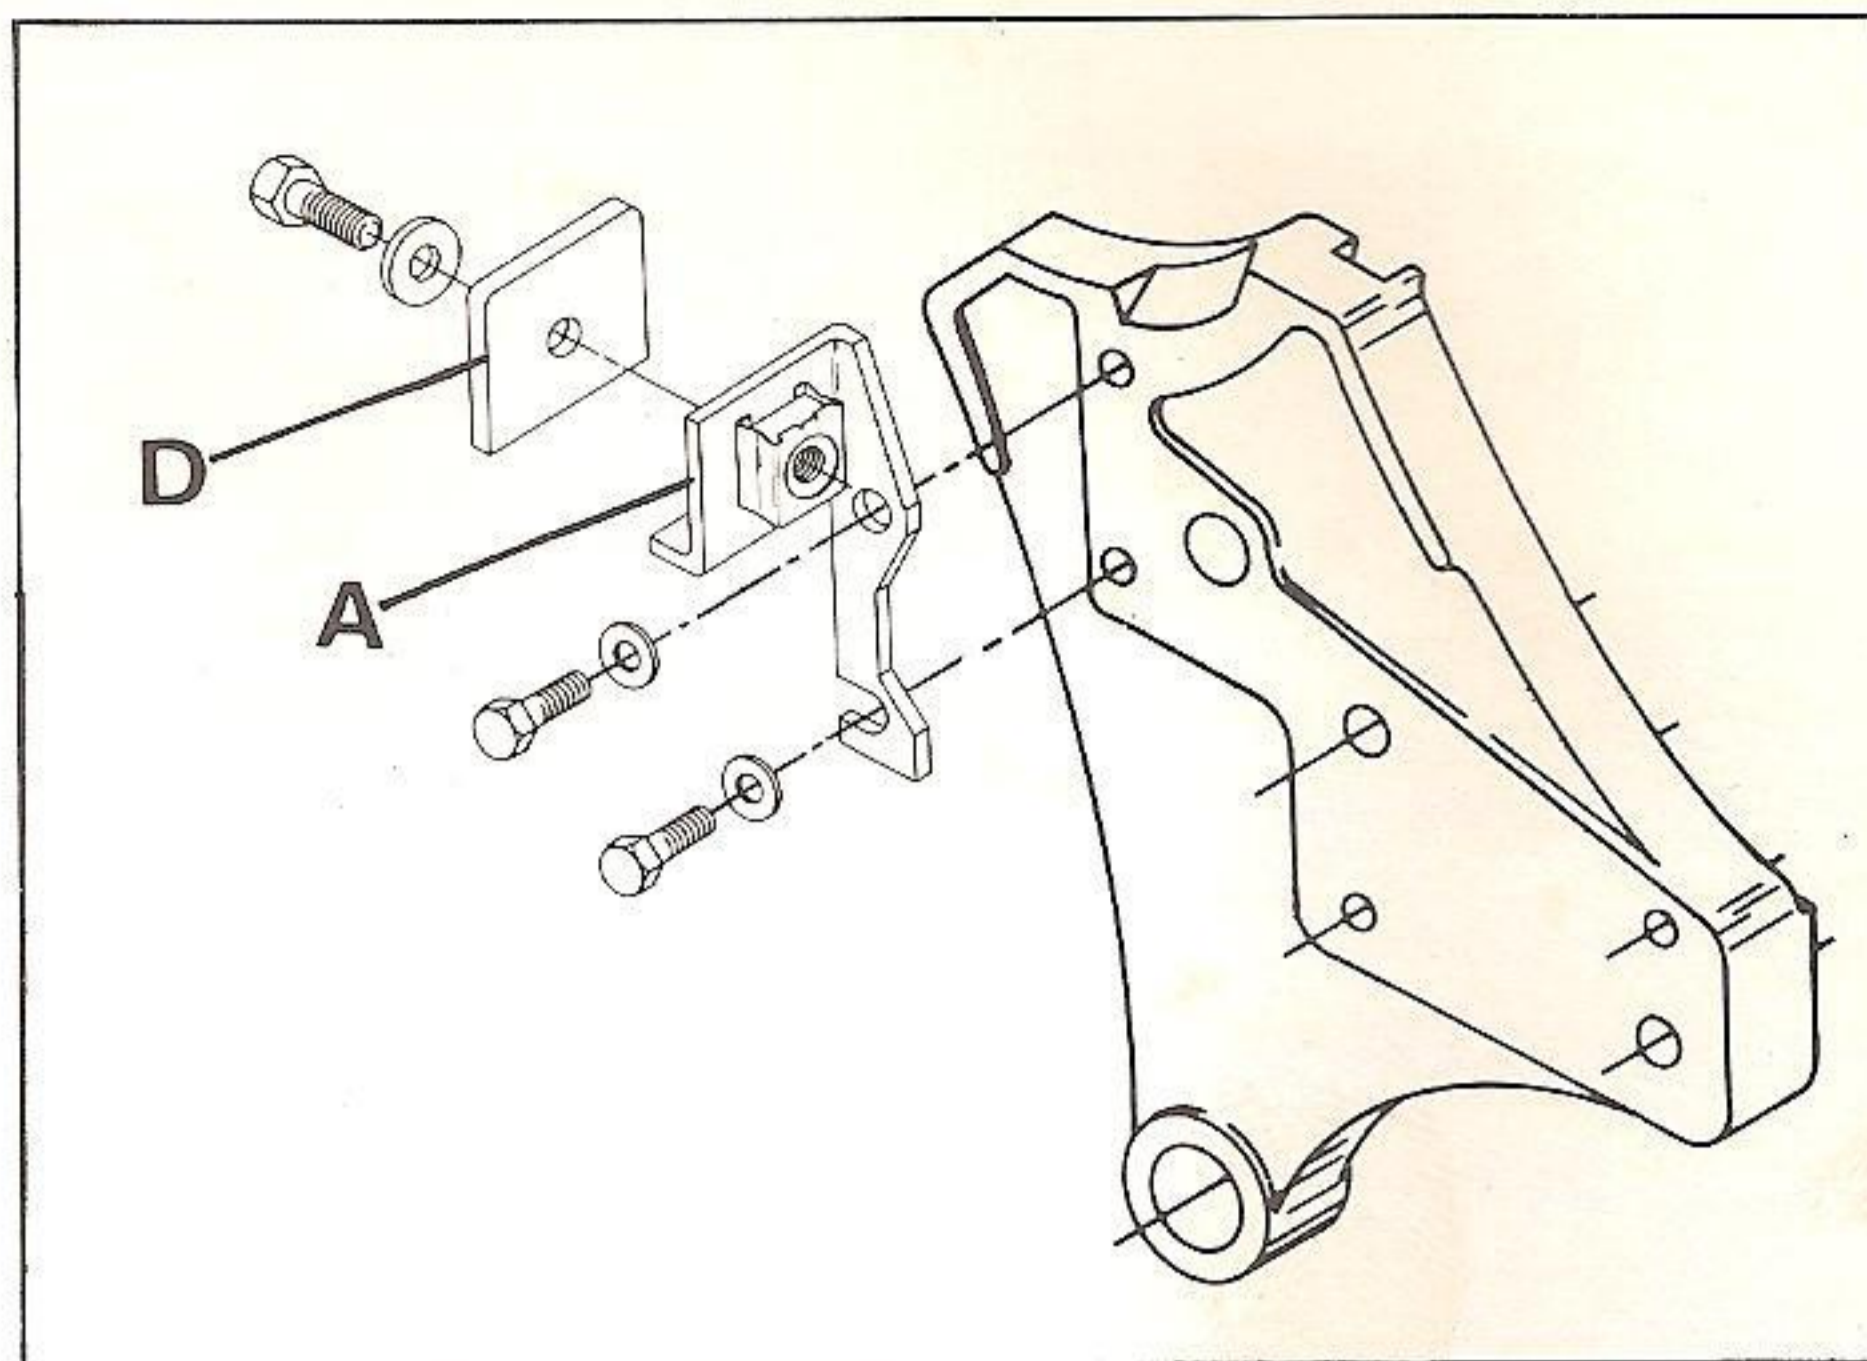
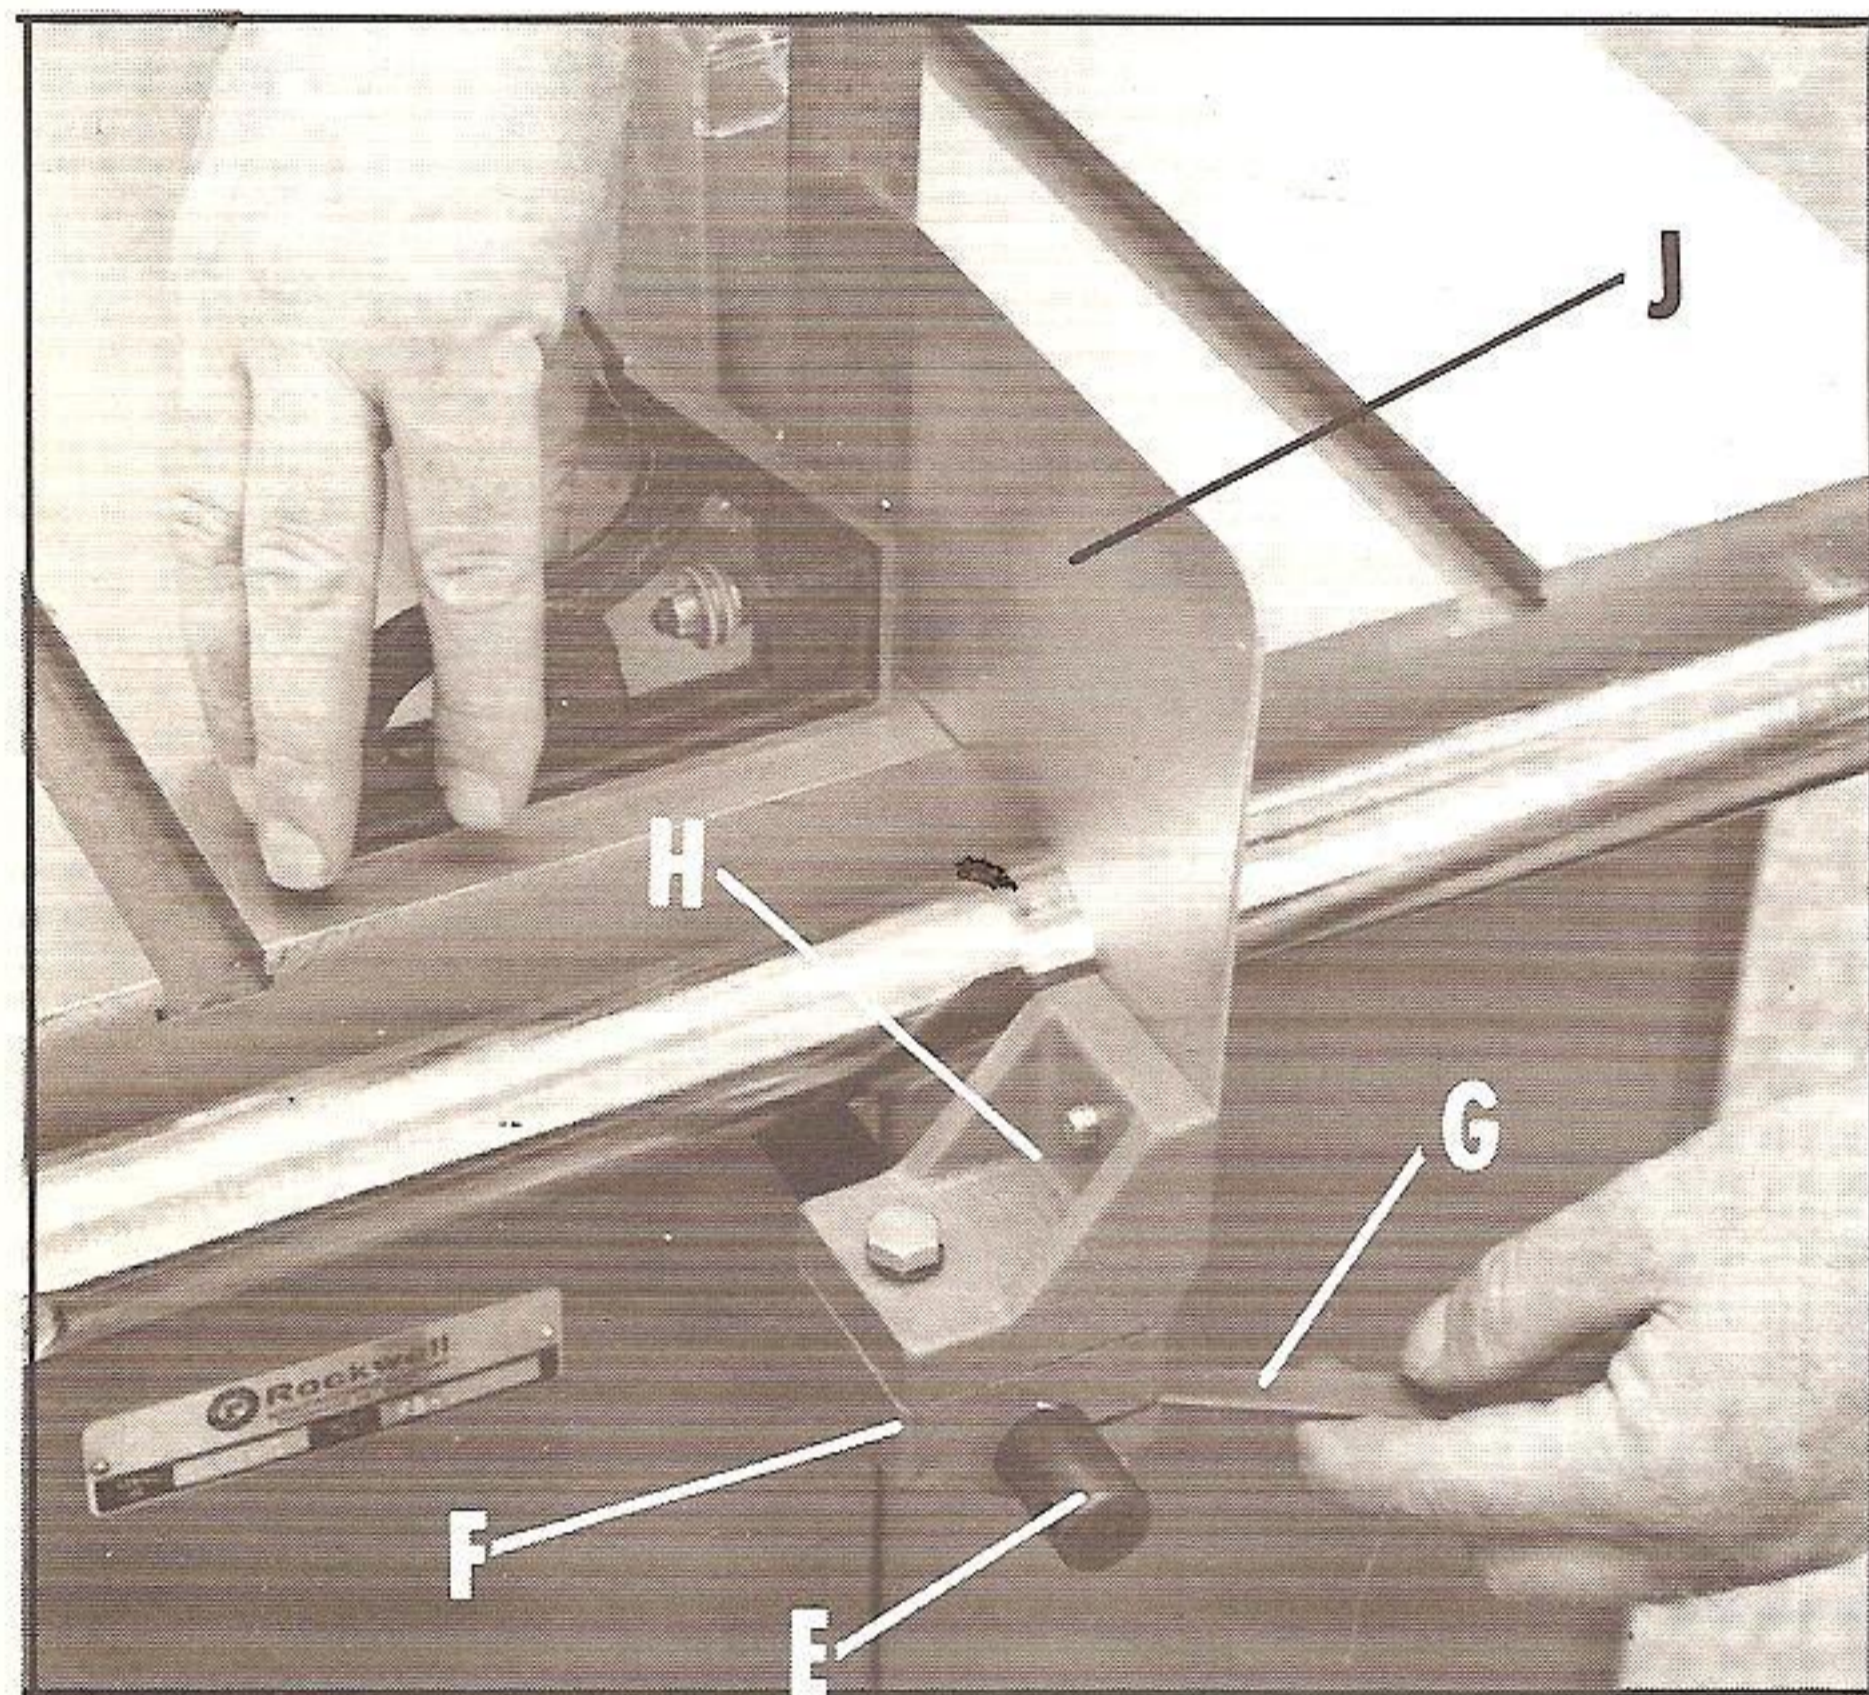

Fig. 10
Fig. 11
3. Assemble splitter fastening plate (D) to the bracket (A), using the screw and washer provided, as shown in Fig. 10.
4. Place threaded end of eccentric rod (E) Fig. 11, through hole in rear of saw carriage and fasten with star washer and nut supplied. Do not fully tighten nut at this time.
5. Assemble lower rear bracket (F) to eccentric rod (E) and snug up the two screws located underneath the bracket with wrench (G), as shown in Fig. 11.
6. Assemble splitter bracket (H) to lower bracket (F) Fig. 11, using screw and lockwasher supplied.
7. Fasten splitter and guard assembly (J) Fig. 11, to bracket (H), using the screw and washer provided. The splitter assembly is also fastened to the inside of the bracket (A) and (D) Fig. 10.